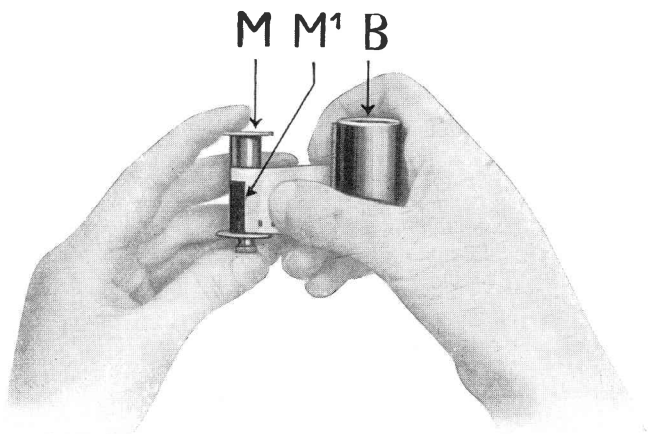

Fig. 19
4. Hold receiving spool **M** with left hand and the loaded chamber **B** in the right, as shown in Fig. 19. Clamp the beginning of the film (**emulsion side outwards**) under the spring **M¹** of the receiving spool. (The perforated edge of the film should lie right against the flange with knob.) Do not, however, wind film on. The tapering of the film should begin close to the slot of the chamber.